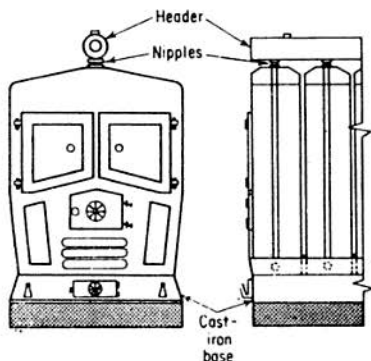

Fig. 5-3. Vertical-sectional horizontal-stacked cast-iron boiler of the screwed-nipple type.
2. Sectional boilers (vertical) consisting of sections assembled front-to-back, with sections standing vertically and assembled by means of push nipples or screwed nipples. See Figs. 5-3 and 5-4.